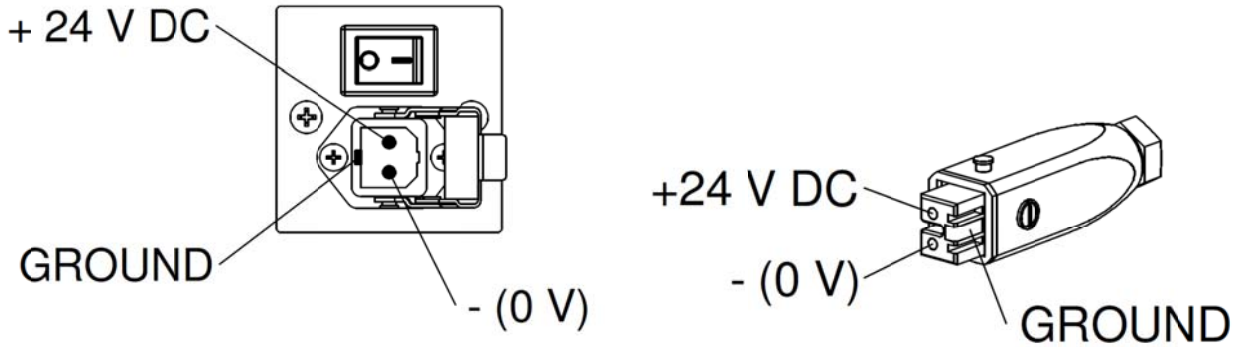

Figure 5, 24 V Input Extension IQ Easy
- Connect the 24 V DC power connector as shown in figure 5.